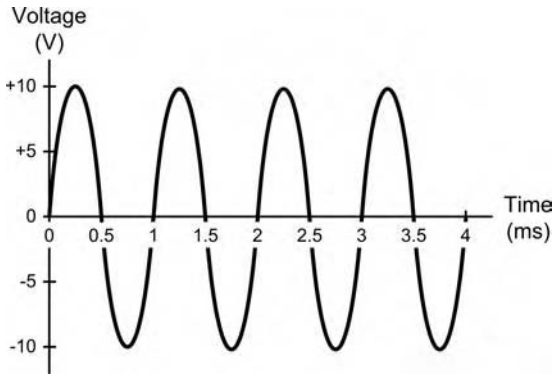

Figure 5.217
87. Figure 5.217 shows an AC waveform. The amplitude of the waveform is: [B1, B2]